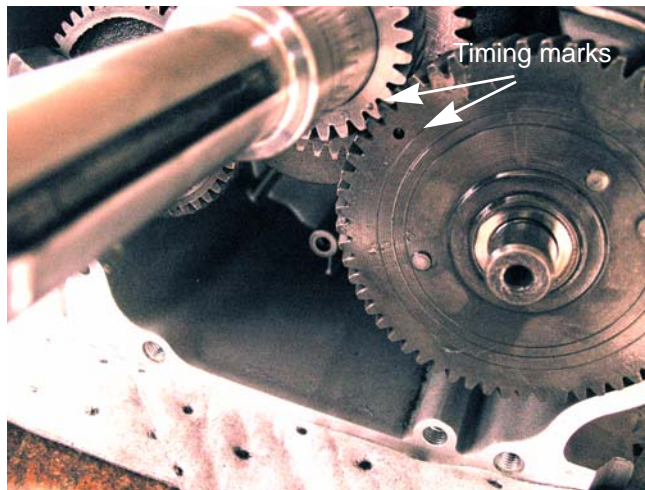

Figure 10.1
11. Align the timing marks to allow easier removal of the cam shaft and to help protect the compression relief from damage. See Figure 10.1.